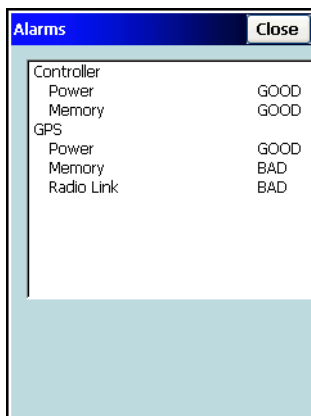

Figure 3-88. Checking Status
- **Check** – pressing this button checks the status of selected situations for the instruments being used (Figure 3-88).